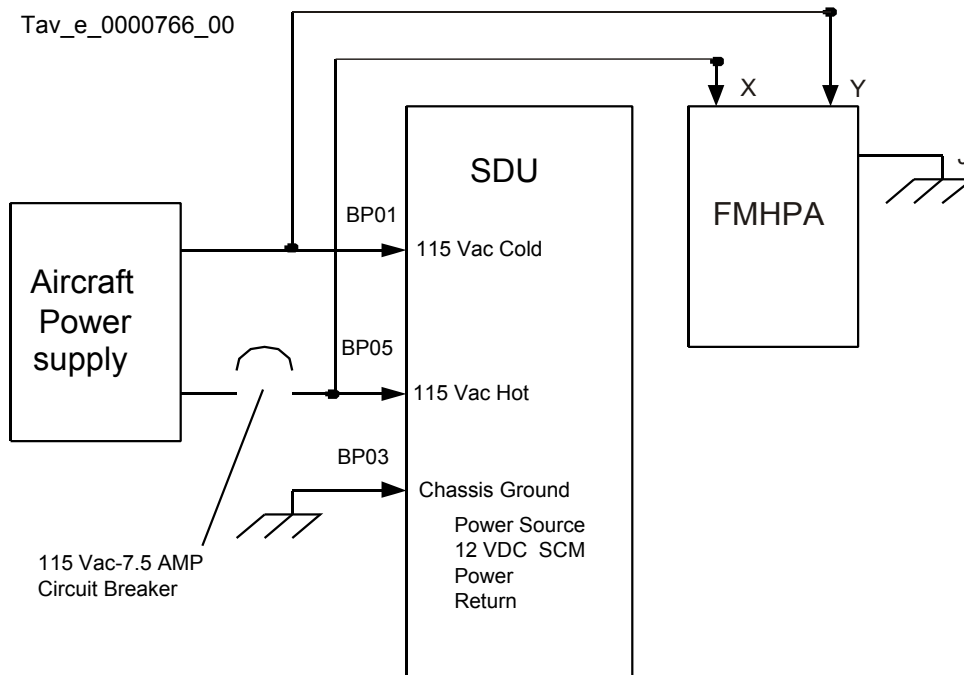

Figure 2.5 FMHPA Power Distribution Diagram
The FMHPA interfaces with the aircraft primary power generator (refer Figure 2.5).
- b. Figure 2.5: Aircraft Power Distribution